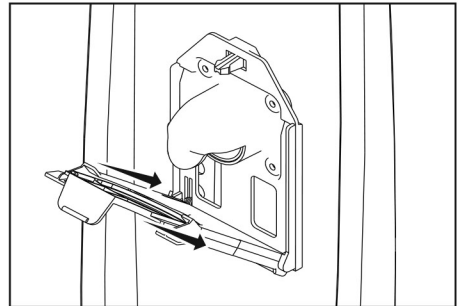

Fig. 3
3. To install a new bag, slide the bottom of the bag collar into the bag holder until it “snaps” into place (Fig. 3).